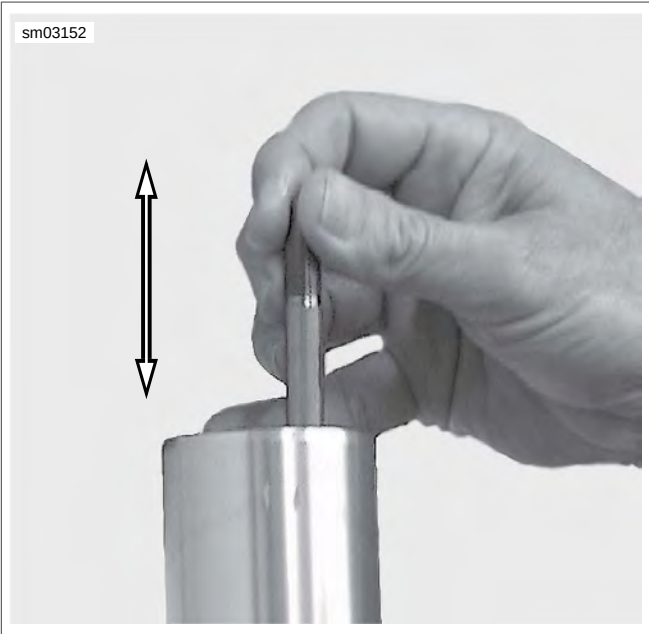

Figure 2-105. Pump Cartridge
13. See Figure 2-105. Slowly pump cartridge 8 to 10 times to exhaust air from assembly.